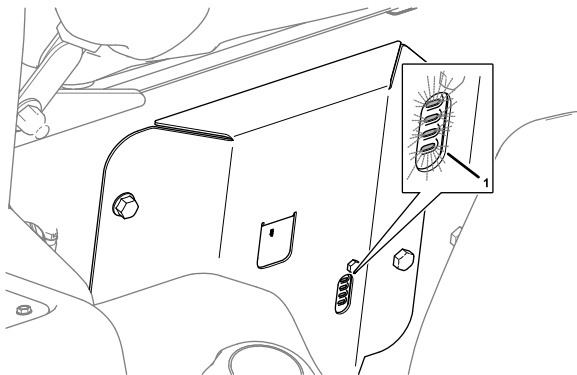

Figure 192
- Modem—the LED indicators illuminate (Figure 192).